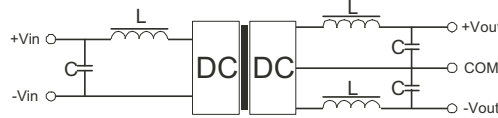

Figure 1
-All of the VWRBT1-SMT Series have been tested according to the following recommended testing circuit before leaving the factory. This series should be tested under load (Figure 1). If you want to further decrease the input/output ripple, you can increase capacitance properly or choose capacitors with low ESR. However, the capacitance should not be too high (Table 1).
By connecting a low ESR capacitor between this terminal and the pin-7 (Figure 1), the output ripple and noise may be further improved. Generally, the capacitance is no greater than 47uF.